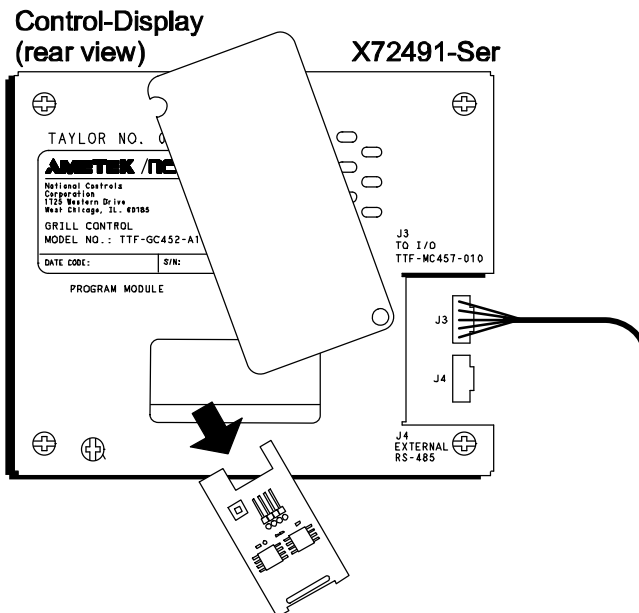

Figure 41
d. Insert the program module into the receptacle located under the door. (See Figure 41.)